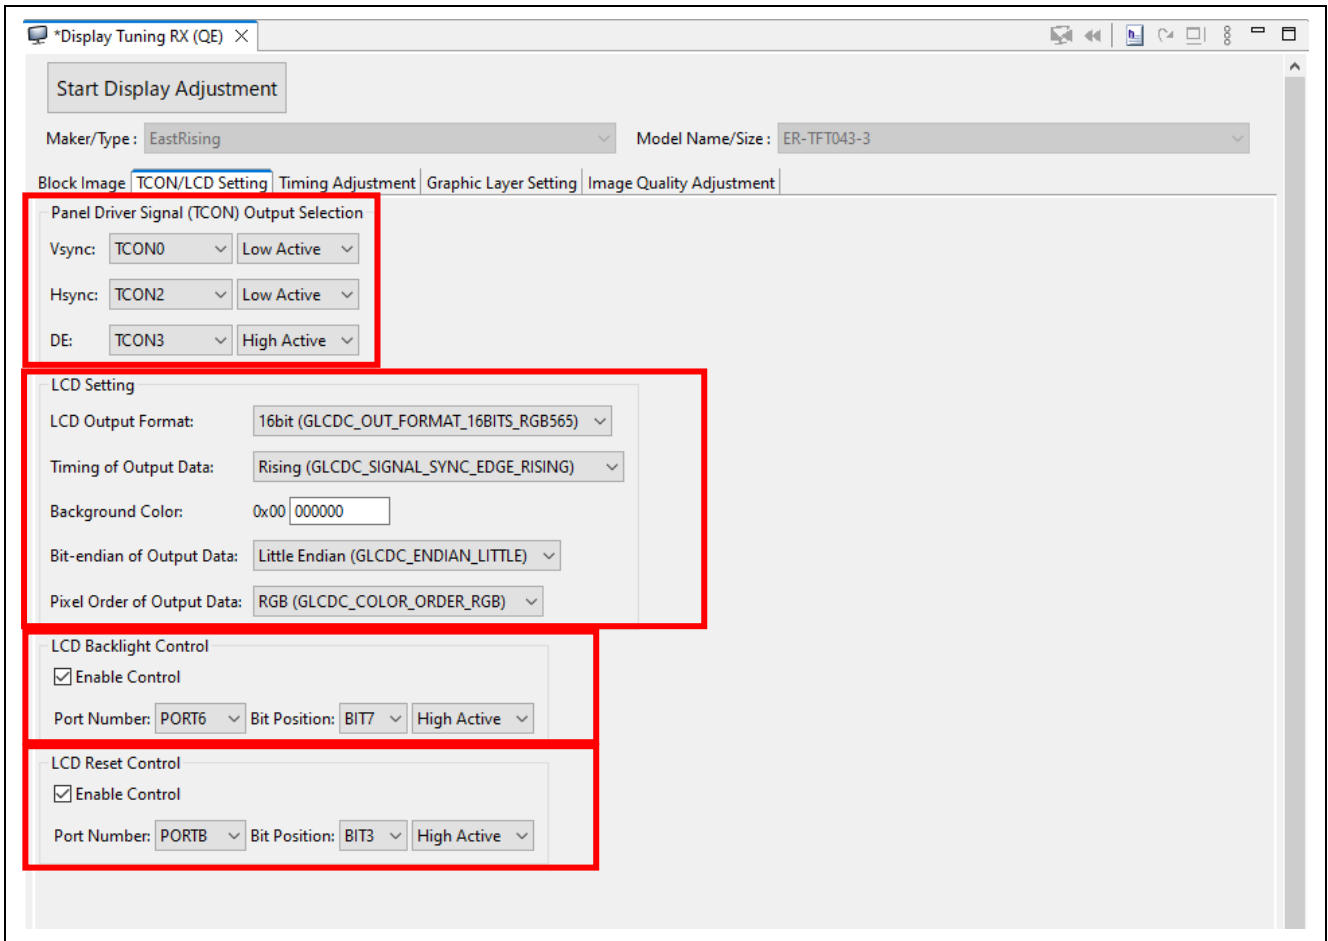

Figure 6.4 “TCON/LCD Setting” Tabbed Page
Select the “TCON/LCD Setting” tabbed page in the “Display Tuning RX (QE)” view and specify the settings for the output of control signals (Figure 6.4).